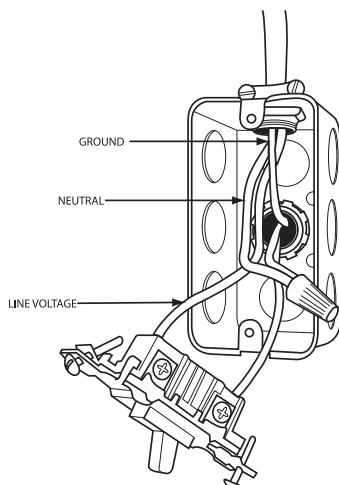

Fig. 28 – Field-Supplied Electrical Box on Furnace Casing
12. Complete electrical box wiring and installation. Connect line voltage leads, see Fig. 28. Use best practices (NEC in U.S. for wire bushings, strain relief, etc).